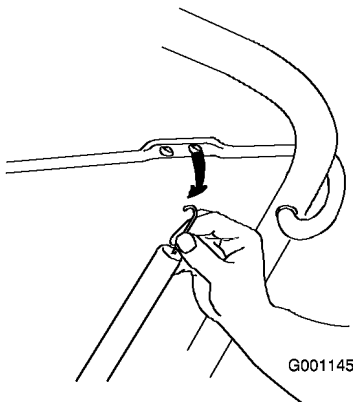

Figure 23
1. Unhook the end of the control cable spring from the control bar (Figure 23).